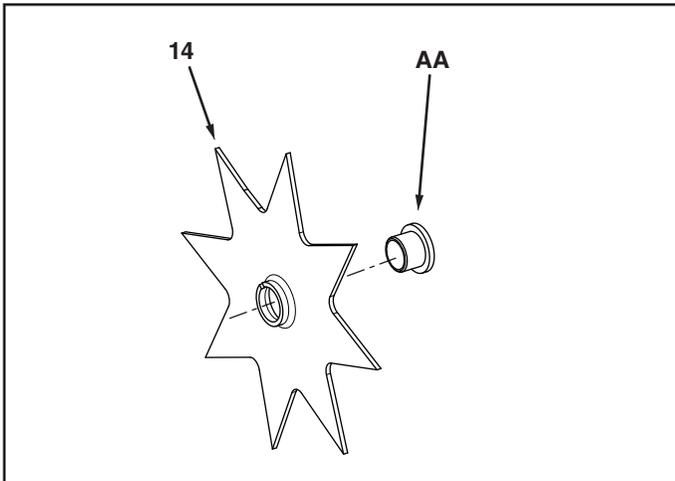

FIGURE 1
2. Press a flanged bearing (AA) into each spike disk (14) from the flat side of the disk. See figure 1.